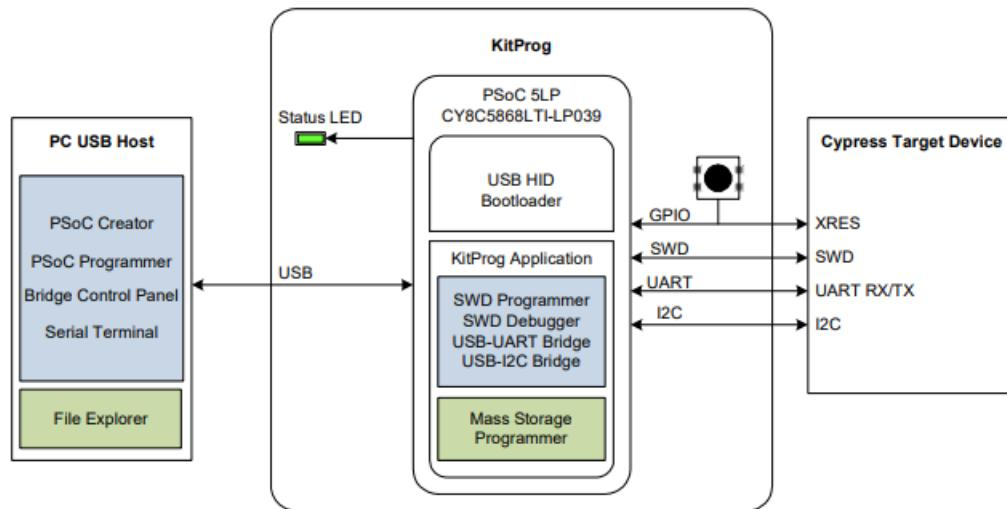

Figure 4: ISM43439-WBP-L151-EVB KitProg3 Block Diagram
- The KitProg3 is an onboard programmer/debugger with USB-I2C and USB-UART bridge functionality. Figure 4 shows the KitProg Ecosystem.